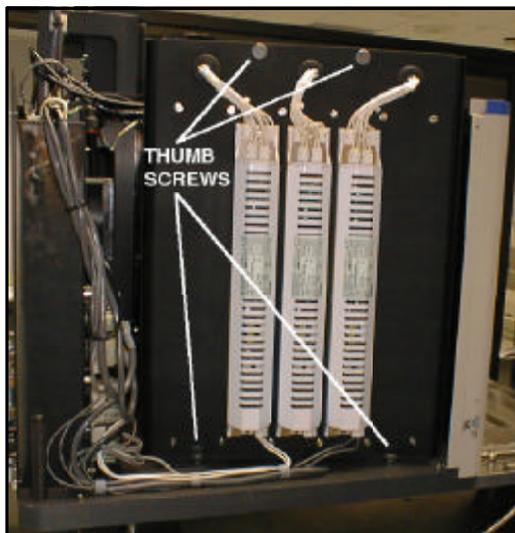

Figure 6-5. Erasure lamp panel thumb screws.
- 3) The erasure lamp panel is now exposed. Unscrew the thumb screws indicated in Figure 6-5, and remove the erasure lamp panel. Use care not to apply excessive force to the connection cables.